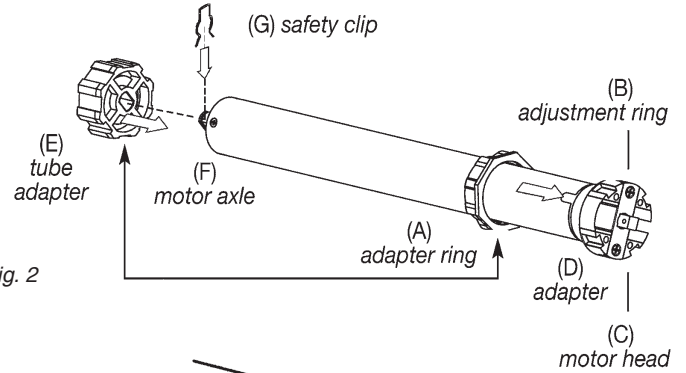
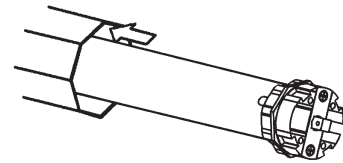

Fig. 2
Fig. 3
- Slide the Adapter ring (A) on the adjustment ring (B). Be aware of the correct installation of the notch with the Adapter (D), (figure 2).
- Place the tube adapter (E) on to the motor axle (F) and secure it with the safety clip (G) that comes within the mounting-kit.
- Be careful when sliding the tubular motor completely into the tubular shaft, until the adapter ring is covered into the tubular shaft, (figure 3). Under no circumstances external force should be applied to the motor in any way.
- The motor needs the following complete movements (figure 2) to memorize the limit position. (Hold down the button ▲ or ▼ to move the motor in the requested direction). The motor will give a feedback (short up/down movement) to confirm that the installation procedure has ended.
- The motor needs the following complete movements (figure 3) to memorize the limit position. (Hold down the button ▼ or ▲ to move the motor in the requested direction). The motor will give a feedback (short up/down movement) to confirm that the installation procedure has ended.